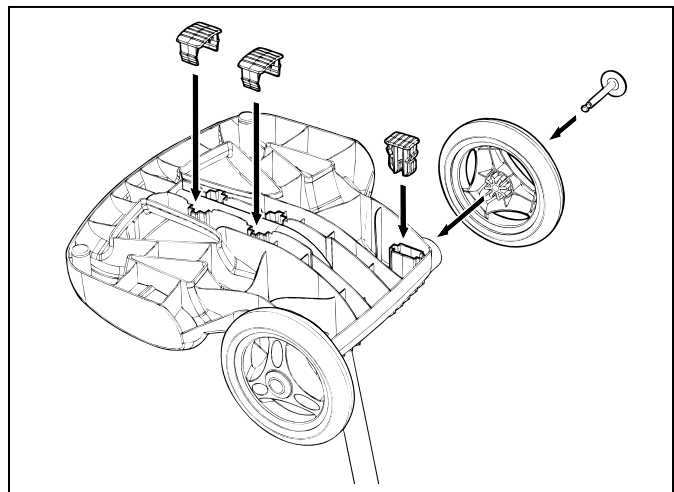

Figure 5. Snap in Support Blocks and Attach Wheels
5. Snap two (2) support blocks into place (Figure 5).
6. Slide axle and hubcap piece through center of wheel and attach to base unit. Snap locking clip into place to secure wheel. Repeat to attach both wheels (Figure 5).